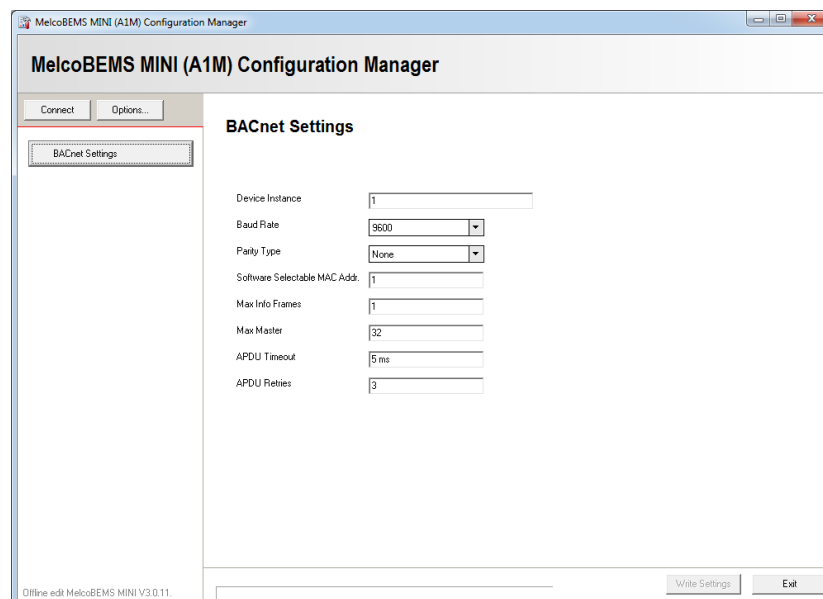

Figure 6
11. After the correct COM port number has been selected, click the button “Connect”. Figure 6 is the BACnet Settings window that will open when connected to the BACnet & Modbus Interface device.